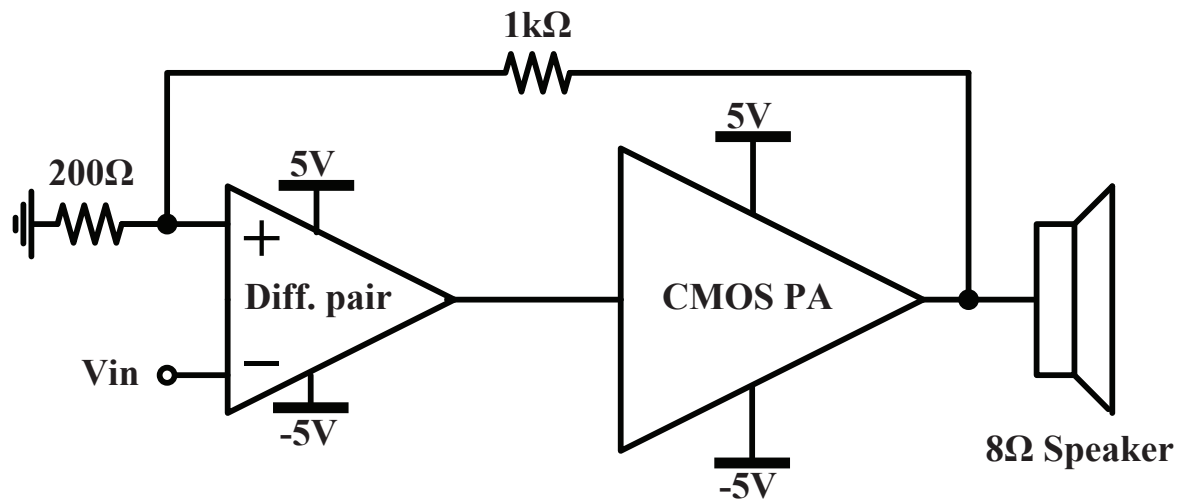
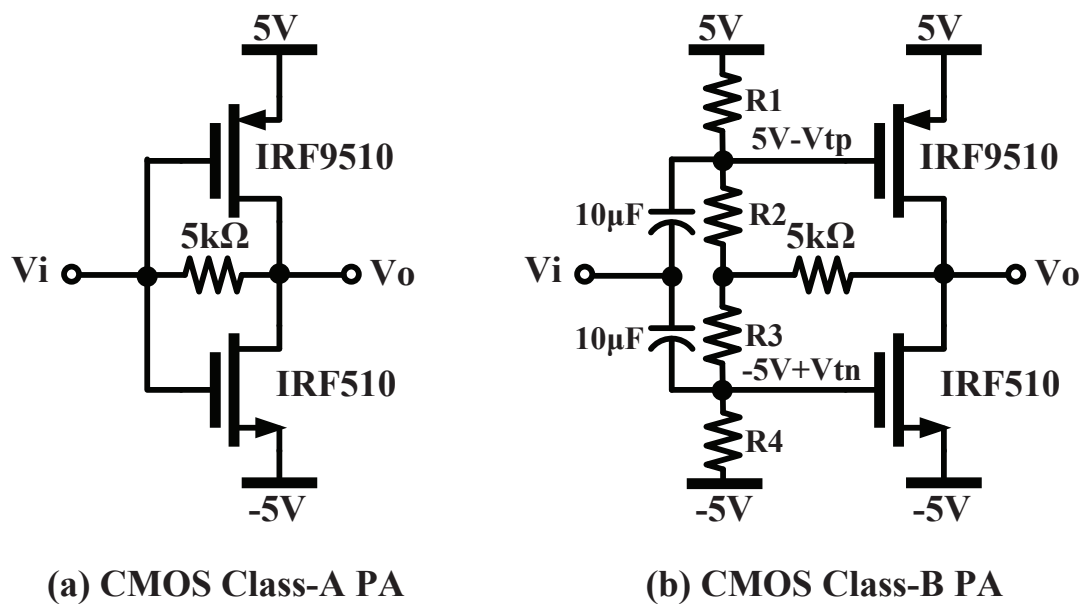
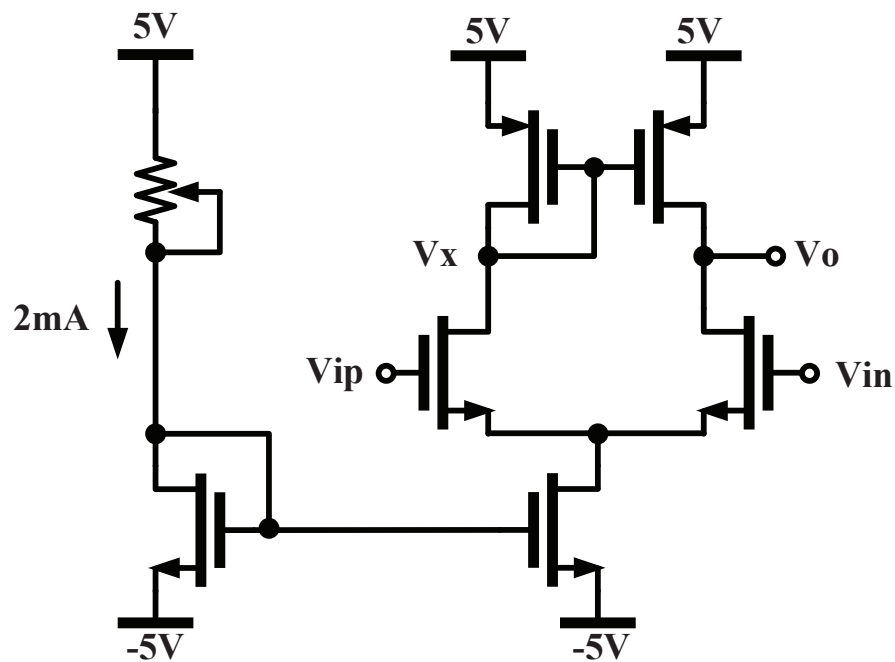

Figure 1: Audio power amplifier with feedback loop
Figure 2: CMOS output stages: a) Class A, b) Class B
Figure 3: Differential Pair
Class A PAs are linear but have poor efficiency. In contrast, class B PAs can have very high efficiency but they operate under strong nonlinearities. The linearity of a class B PA can be significantly improved by employing a negative feedback around the power amplifier as shown in Figure 1. The opamp acts as an error amplifier which samples a fraction of the output voltage ( $V_o$ ) and amplifies the difference between it and the input voltage ( $V_i$ ).
In this lab, you will simulate and test the Audio Power Amplifier with feedback shown in Figure 1. This system consists of a differential pair, similar to the one in Lab 4, as well as a CMOS PA (also called "output stage"). You will build first a Class-A and then a Class-B output stage as shown in Figure 2. Then, you will build the differential pair, as shown in Figure 3. Finally, you will build the feedback loop around the differential pair and Class-B PA. For the differential pair, you will use transistors ALD1101 and ALD1102 as in Lab 4, while for the CMOS PA, you will use power transistors IRF510 and IRF9510. The power transistors have large  $V_{breakdown}$  and are able to sustain large currents and voltages ( $> 10A, < 10V$ ) at their terminals. An  $8\text{-}\Omega$  speaker is connected to the output to convert voltage to sound.
1. Run a 50-ms transient simulation for the Class-A output stage in Figure 2 (a) with 1-kHz  $1\text{-}V_{pp}$  input. Show the input voltage and output voltage waveform. Set the maximum time step of the transient simulation to  $1\text{ }\mu\text{s}$ . Plot the output spectrum using the FFT function of the simulator. Find the power consumption of the amplifier when the input signal amplitude is  $10\text{mV}_{pp}$  and when it is  $1\text{V}_{pp}$ .
2. Repeat step 1 for the Class-B output stage in Figure 2 (b). Determine the value for  $R_1$ ,  $R_2$ ,  $R_3$ , and  $R_4$  such that both the p-MOSFET and the n-MOSFET are biased at threshold (little or no current flowing through them).
3. Determine the gain of the amplifier in Figure 1. What happens to the volume that the speaker would produce when the  $1\text{-k}\Omega$  feedback resistor value is varied?
4. The schematics in Figures 2 (a) and (b) use two supplies, 5V and -5V. This arrangement centers the output at 0V and allows us to DC couple the output stage directly to the speaker.
5. Build the linearized power amplifier with feedback in Figure 1 with the class B output stage and set the voltage gain to 4 (by adjusting the  $1\text{-k}\Omega$  resistor). Replace the  $8\Omega$  load resistor with the speaker. Connect your Class A output stage and apply a sound waveform (from your cellphone or iPod) at the input. Observe the sound quality.